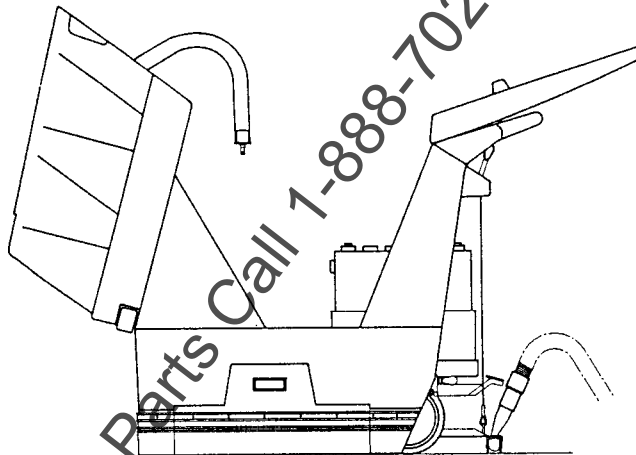

Figure 1
4. Position tank as shown below, figure 1, to hold tank in upright position.